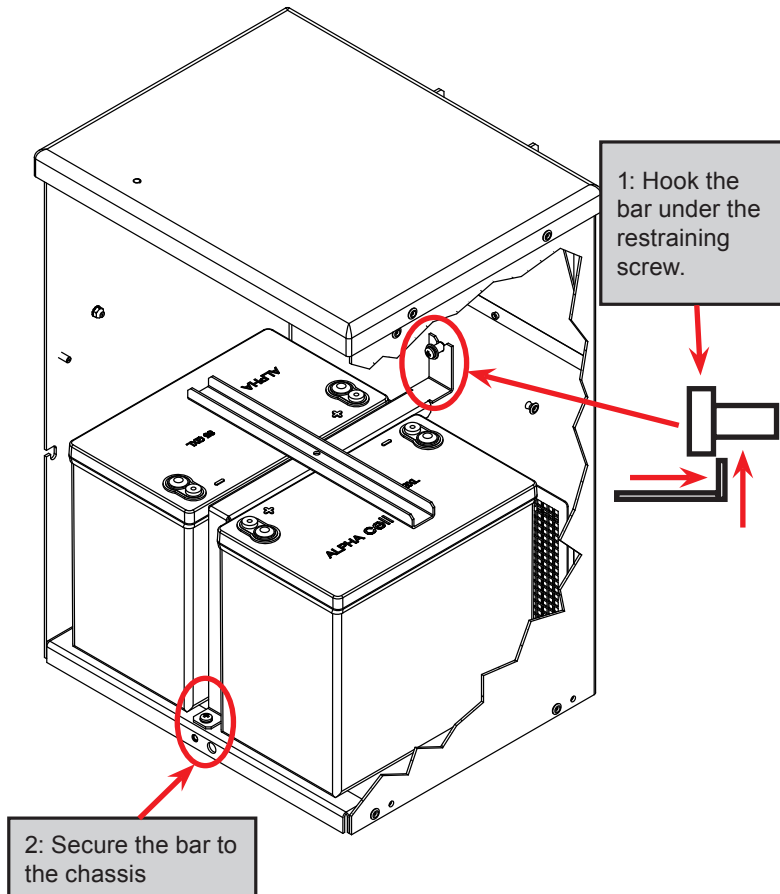

Figure 18 — Securing the batteries with the optional restraining bar
5. If the optional battery restraining bar is used, install it as shown in Figure 18.